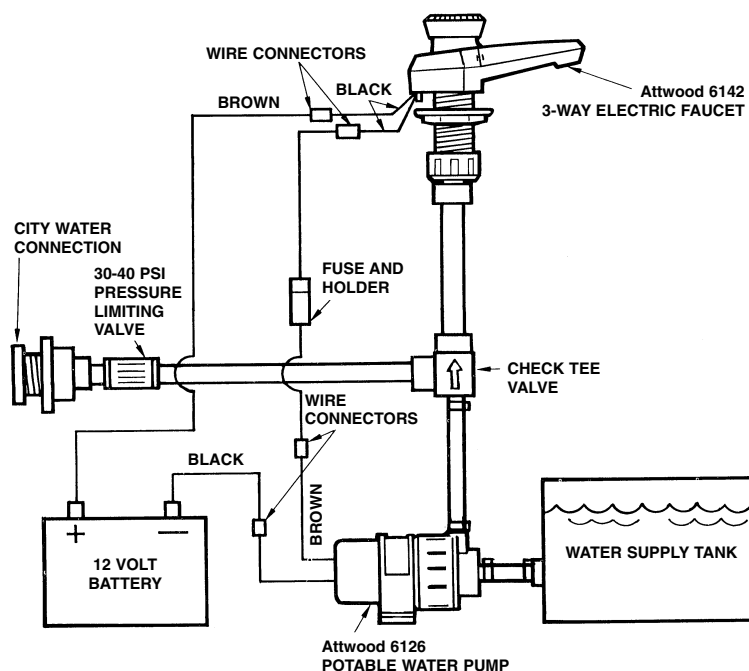

FIGURE 1
2. After installing the pump, connect the pump's black lead wire directly to the 12 volt battery negative (-) connector. Connect the pump's brown wire lead to one wire of an in-line fuse holder and connect the other fuse holder wire to one lead wire from the Electric Faucet. Connect the other Electric Faucet lead wire directly to the 12 volt battery positive (+) connector. (See Figure 1). Added wire must be 18 gauge or larger.